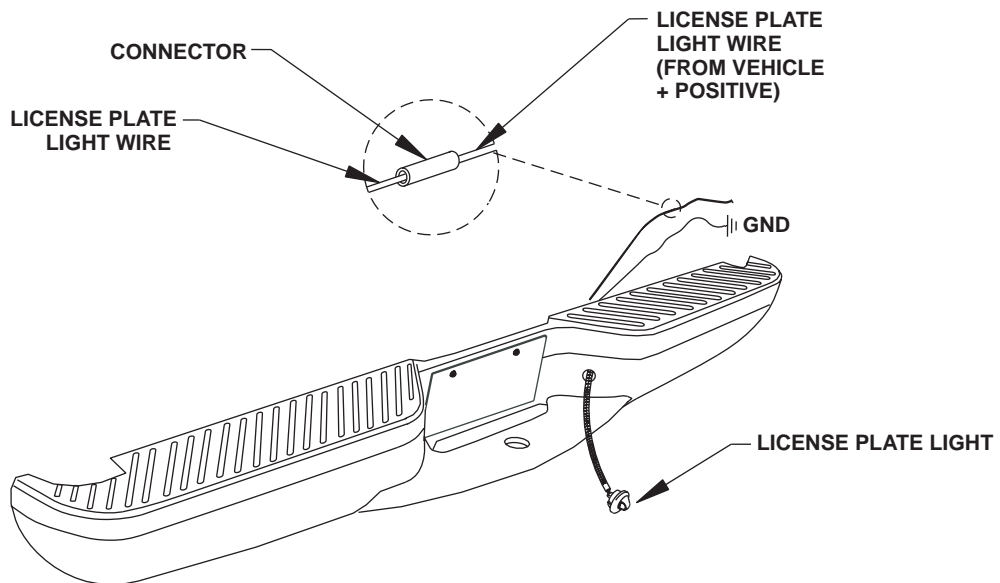

FIGURE 3
- STEP 5:** Install license plate lights into bumper. Splice light wires into truck wiring using supplied connectors. Ensure license plate lights are functioning properly. Refer to Figure 3.